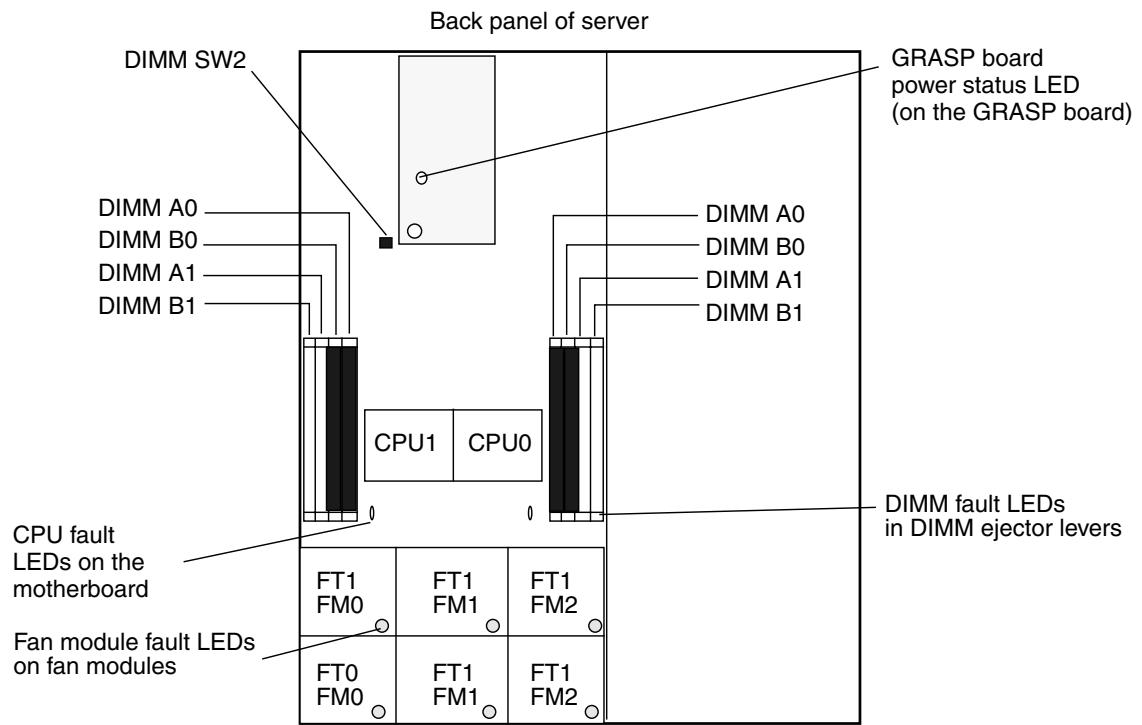

FIGURE B-4 Sun Fire X4100 M2/X4200 M2 Internal LED Locations
- For the Sun Fire X4100/X4200 M2 servers, you can view the DIMM fault LEDs without the power cords attached. These LEDs can be lit by a capacitor on the motherboard for up to one minute. To light the DIMM fault LEDs from the capacitor, push the small button on the motherboard labeled “DIMM SW2.” See FIGURE B-4.
FIGURE B-4 shows the internal LEDs in the Sun Fire X4100/X4200 M2 servers.